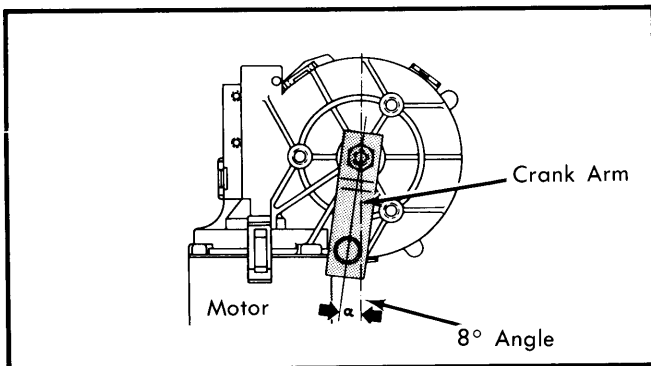

Fig. 1 Wiper Motor Crank Arm Position (4000 Models)
**Installation** — Install motor on bracket and connect wiring. Run motor and allow it to park. Install crank arm on 4000 models as shown. See Fig. 1. On 5000 models, crank arm should be pointing to right side of motor, at a right angle to motor centerline. Install crank arm and motor shaft nut, then slip linkage rods onto crank arm joint.